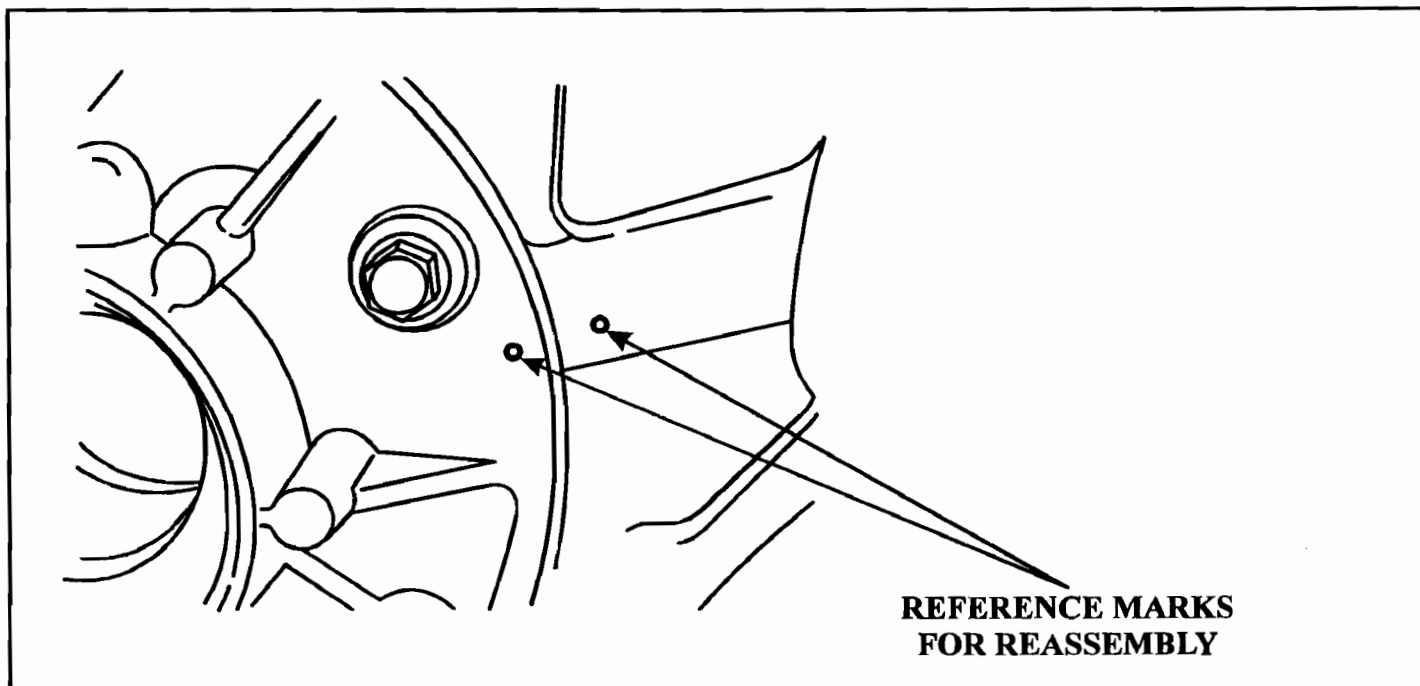

Figure 1
**CORRECTION:** The late model Chrysler A904/A999 transmissions have a Governor Support with the mounting holes evenly spaced, or concentric around the support, which will now allow you to install the Governor Support so that the governor feed passage is blocked. Some Governor Supports have an arrow with the words "PAN FACE" cast into the support as shown in Figure 2, and should be installed with the arrow towards the pan face. If your support is not so marked, make your own reference marks on the support and the case with a center punch as shown in Figure 1, before removing. If you have already removed the support, and your support is not marked with the arrow, the support must be installed into the case with the feed holes lined up with the corresponding case passages, as shown in Figure 3.